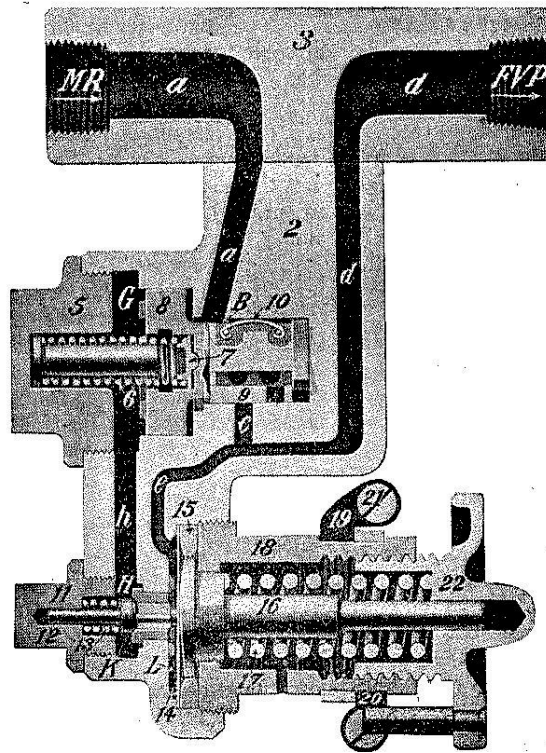

Fig 6: Diagram of B-6 Feed Valve,
99. Q. What do Figures 6 and 7 represent?
A. The feed valve consists of two portions, the supply and regulating portions. The supply portion consists of a slide valve 9 and a piston 8 (see Fig. 6). The supply valve 9 opens and closes communication between the main reservoir and the feed valve pipe and is moved by the piston 8 which is operated by main reservoir air entering through passage "a" on one side or by the pressure of the spring 6 on the other side. The regulating portion consists of a brass diaphragm 14, on one side of which is the diaphragm spindle 16, held against the diaphragm by the regulating spring 17, and on the other side a regulating valve 12, held against the diaphragm or its seat, as the case may be, by the spring 13. Chamber "L" at the left of the diaphragm is open to the feed valve pipe through the passage "e" and "d". The feed valve is adjusted by turning the hand wheel 22 in or out, thus increasing or decreasing the pressure exerted by the spring on the diaphragm. The same results are obtained in turning the hand wheel 22 as when turning the adjusting screw in the older types of feed valves.
when the diaphragm will move to the right, allowing the spring 13 to force the regulating valve 12 to its seat, closing port "K". Chambers "G" and "H" are then no longer open to chamber "L" and the feed valve pipe, and these chambers being small, the pressure raises quickly to main reservoir pressure due to the leakage of air past the supply piston 8, which forms but a loose fit in its bushing. When the pressure in chamber "G" becomes nearly equal to that in chamber "B", the piston spring "6" forces the piston 8 and its slide valve 9 to closed position, which prevents further flow of air from the main reservoir to the feed valve pipe (see Fig. 6). The feed valve will remain in closed position until the pressure in chamber "L" is slightly reduced so that the pressure on the diaphragm 14 is no longer able to withstand the pressure of the regulating spring 17, which then forces the diaphragm to the left, lifting the regulating valve 12 from its seat and again opening port "K" to chamber "L", thus dropping the pressure at the left of piston 8 below that of the main reservoir acting on the opposite side of the piston.